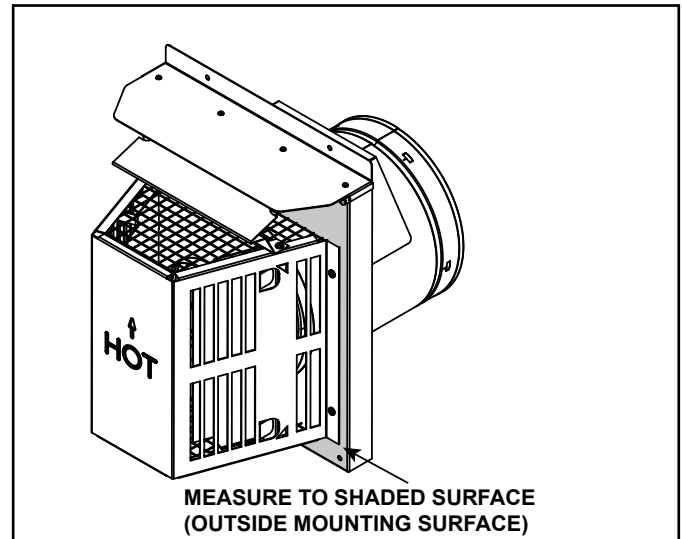

Figure 4.10 Measure to Outside Mounting Surface ←
- Horizontal terminations are measured to the outside mounting surface (flange of termination cap). See Figure 4.10.